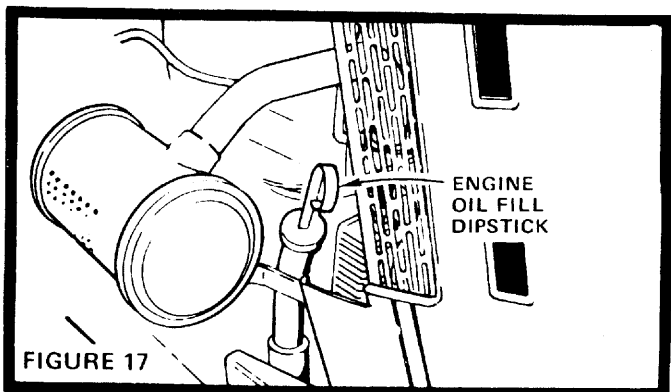

FIGURE 17
- Refill Engine Oil (Fig. 17). In Summer use S.A.E. 30 (SC, SD or SE) Oil. In winter (below 32° F.) use S.A.E. 10W30 (SC, SD or SE) or 10W40 (SC, SD or SE). In extreme cold (below 0° F.) use S.A.E. 5W20 (SC, SD or SE). Capacity is 3 - 1/2 pints without Oil Cartridge change. If Oil Cartridge (page 8) is changed, capacity is changed, capacity is 4 pints. **NOTE: DO NOT OVER-FILL.**
Several minutes after stopping Engine, check Engine Oil Level with Tractor on level ground. Wipe dipstick (Fig. 17) clean, push it down tight for a few seconds, remove and read Oil Level. If necessary, add Oil until "FULL" mark is reached. In summer use S.A.E. 30 (SC, SD or SE) Oil. In winter (below 32°F.) use S.A.E. 10W30 (SC, SD or SE) or 10W40 (SC, SD or SE). In extreme cold (below 0°F.) use S.A.E. 5W20 (SC, SD or SE). NOTE: DO NOT OVER-FILL.